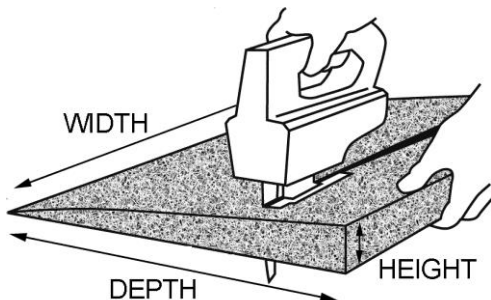

FIG. 1
3. If door threshold is less than the height of the mat, trim mat to the desired height as shown in FIG. 1 (serrations in the bottom of the mat can be used as a guide).